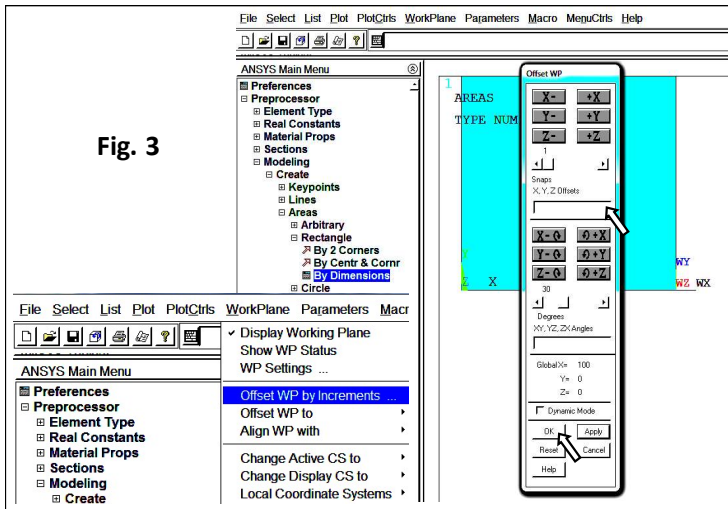

Fig. 3
b) display and move the working plane (X, Y, Z Offsets) : $a+r_1, 0, 0$ (Fig. 3)